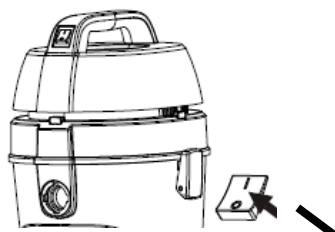

Fig. 10
**On/Off Switch:** Turn the unit on or off by pressing the power switch located on top of the main body (Fig. 10).